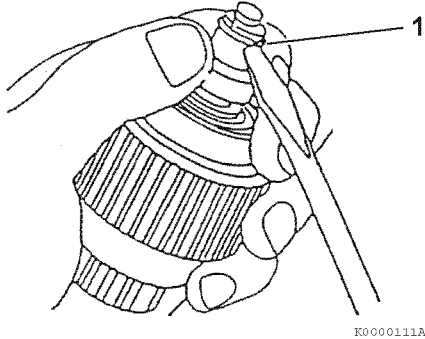

Figure 11-10
11. Using a flat-blade screwdriver, remove the retaining ring (Figure 11-10, (1)) from the shaft of the pinion.